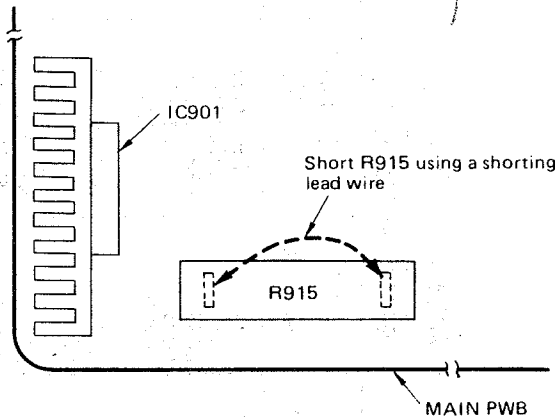

Fig. 2
3. Short R915 using a shorting lead wire as shown in Fig. 2.